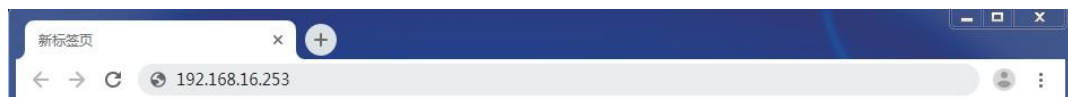

Figure 2-2 Enter the IP address the address bar
Step 1 Open the browser and enter the default IP address of the serial server in the address bar, as shown in Figure 2-2.